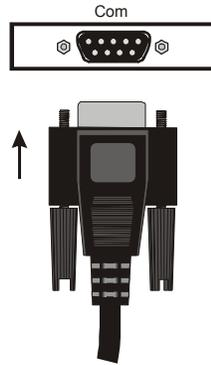

Figure 1-28
- √ Connect your serial cable to an available COM port on the back of your computer as shown in Figure 1-28.
- √ Connect the COM port adaptor either directly to your Board of Education or HomeWork Board, or connect it to the serial cable as shown in Figure 1-28.